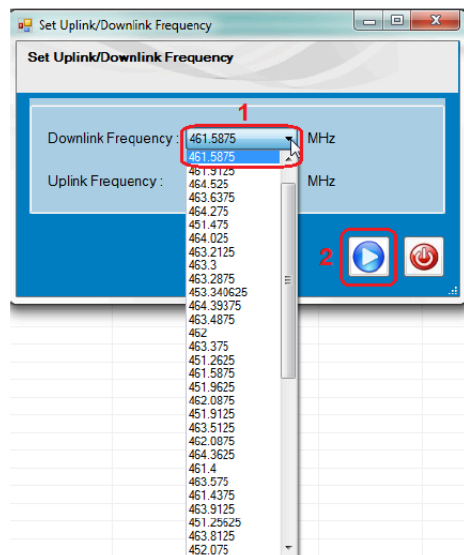

Figure 15
6. From the **Setup Uplink/Downlink Frequency** window (see figure 15) ensure the following;